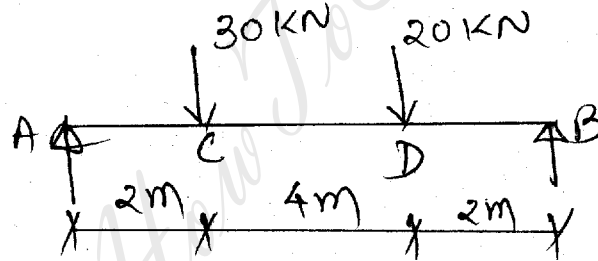

Fig. 3
- 2 Calculate deflection under the point load. Refer figure 3. 12